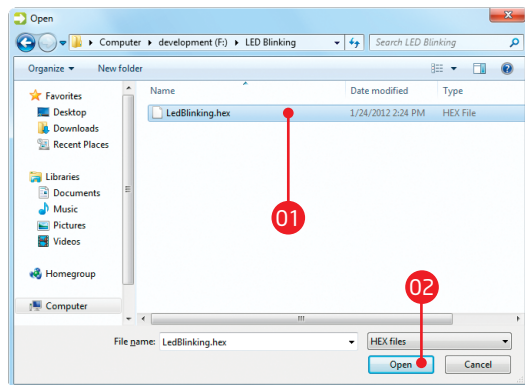

Figure 2-6: Locating and selecting .hex file
- 01** Click the **Browse for HEX** button and from a pop-up window (**Figure 2-6**) choose a .HEX file to be uploaded to MCU memory